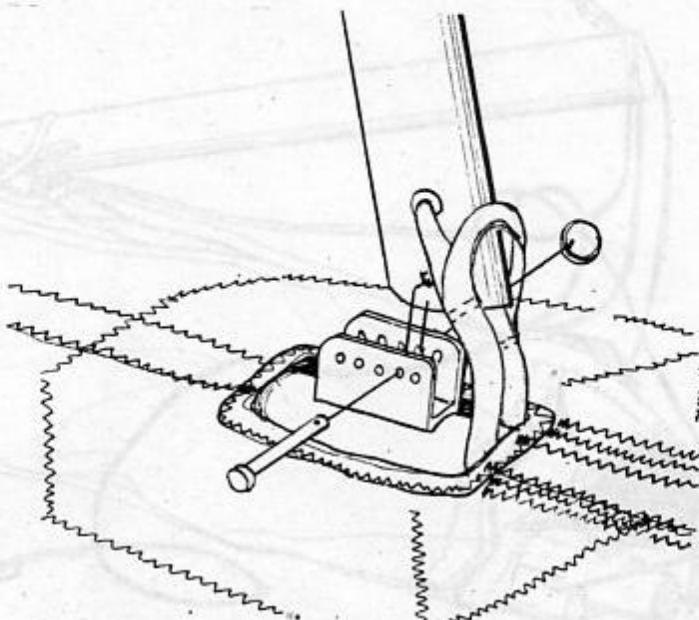

Fig. 3.1.26.
15. Install the kingpost into the kingpost channel. Secure the kingpost with the clevis pin. Fix the clevis pin with the safety ring (Fig. 3.1.26, 3.1.27).